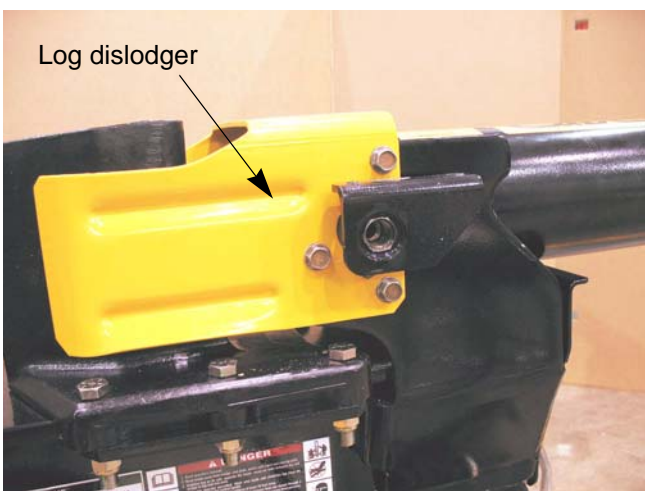

Figure 5.11
16. Remove the six screws that secure the log dislodger to the beam using a 9/16" wrench. See Figure 5.11.